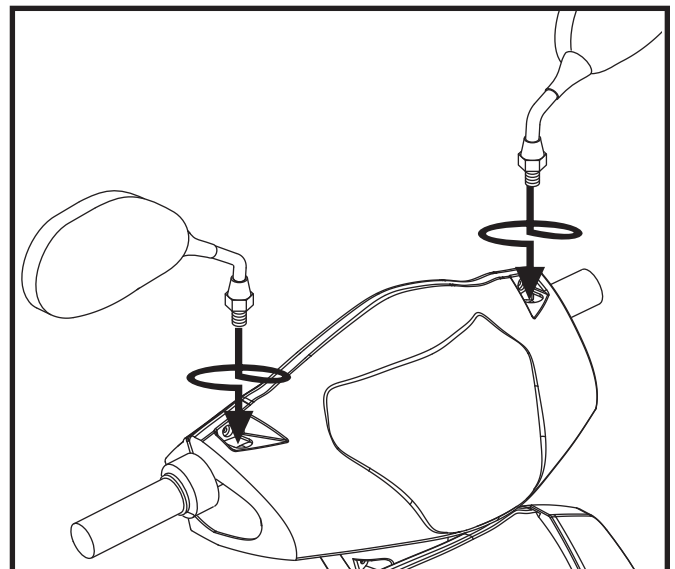

Figure 16. Mirror Position Installation/Adjustment
1. Insert the threaded end of the mirror holder into the opening and rotate it clockwise until snug. **See figure 16.**
2. Adjust the mirror left, right, up, or down until you have a good line of sight behind you. **See figure 16.**